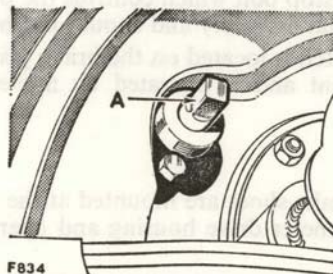
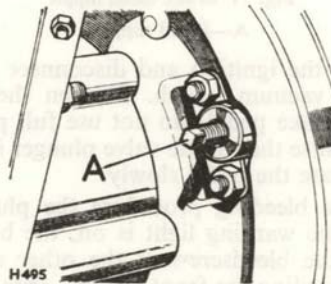

Fig. 69 Wheel brake adjustment
Fig. 70 Transmission brake adjustment
Each piston has one pressure seal (cup) which keeps the piston in light contact with the brake shoe. A bleed screw nipple and non-return valve is fitted in one cylinder only, access to the nipple is gained from the rear of the anchor plate. (Fig. 70.) Rubber covers are fitted over the bleed nipple and pistons to exclude dust and mud. Two adjusting cams, one for each shoe, are fitted to both the front anchor plates. See Fig. 69.
- (1) Release the hand brake.
- (2) Adjustment is made by means of the adjuster wedge spindle (A) (Fig. 70) protruding from the front of the brake back-plate, accessible from beneath the vehicle; during rotation of the adjuster a click will be felt and heard at each quarter revolution.